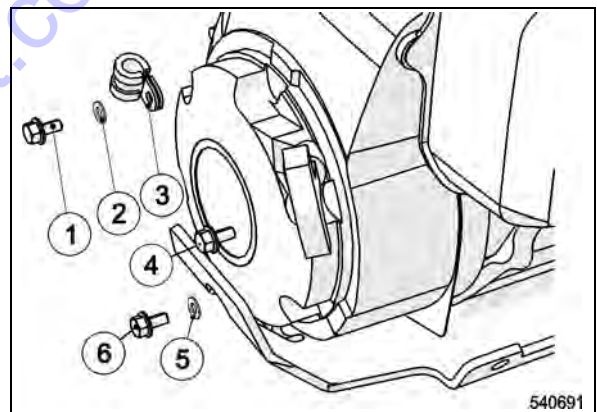

Fig. 46
- Unscrew the fastening screws (1), (4) and (6) (Fig. 46) and take off the recoil starter.